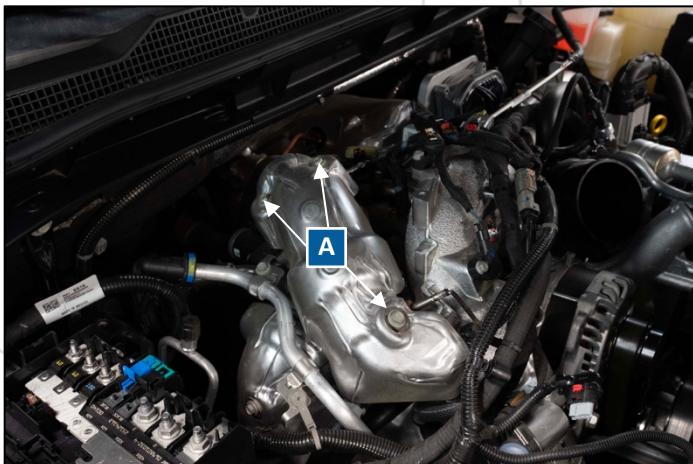

Figure 16: EGR Heat Shield
24. Remove upper EGR heat shield, 10mm hex head bolt x3 (labeled as A in Figure 16).